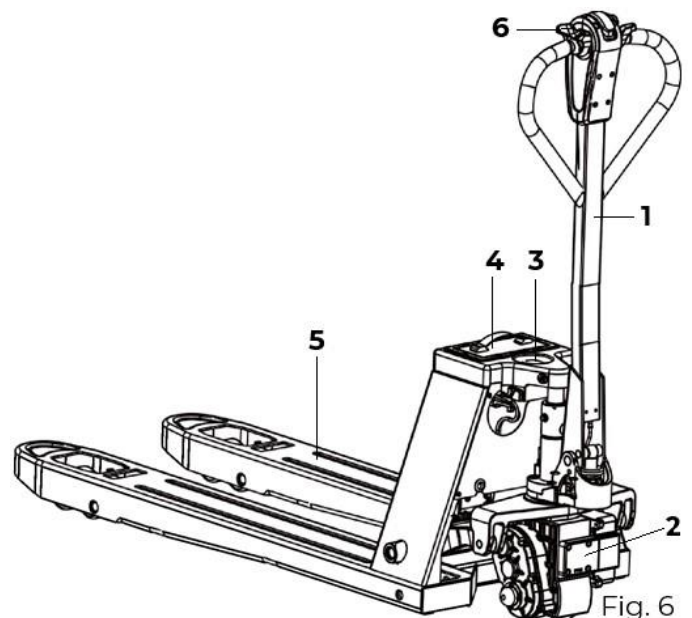

Fig. 6
3. Press the emergency stop (3, fig.6), all electrical systems are switched off.